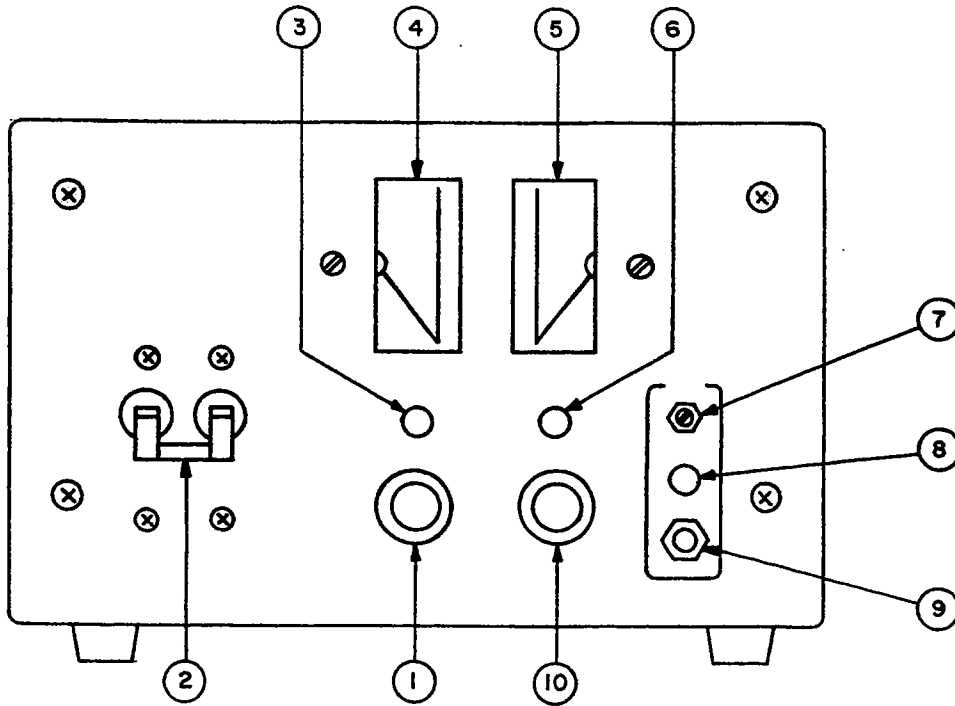
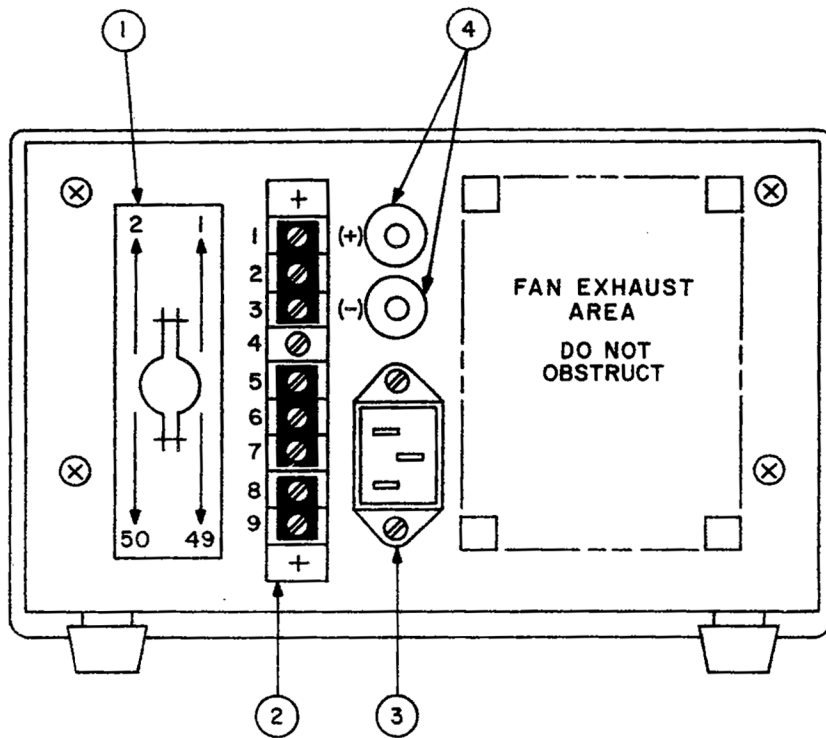

FIG. 2-2 CONTROL AND TERMINATIONS, ATE 1/2 RACK GROUP, FRONT.
FIG. 2-3 TERMINATIONS, ATE 1/2 RACK GROUP, REAR.
- a) FRONT PANEL: Refer to FIG. 2-2 and Table 2-2.
- b) REAR: Refer to FIG. 2-3 and Table 2-3.
2-9 A simple operating check after unpacking and before permanent installation is advisable to ascertain whether the power supply has suffered damage resulting from shipment. Refer to FIG. 2-2 and to FIG. 2-3 for the location of the operating controls and output terminals.
**A resistor/capacitor network is connected from the negative monitor terminal to the metal chassis of the power supply. If this internal network is *not* desired, the connection to the chassis can be opened by removing the link (8)-(9) on TB201 (See FIG. 2-3).**